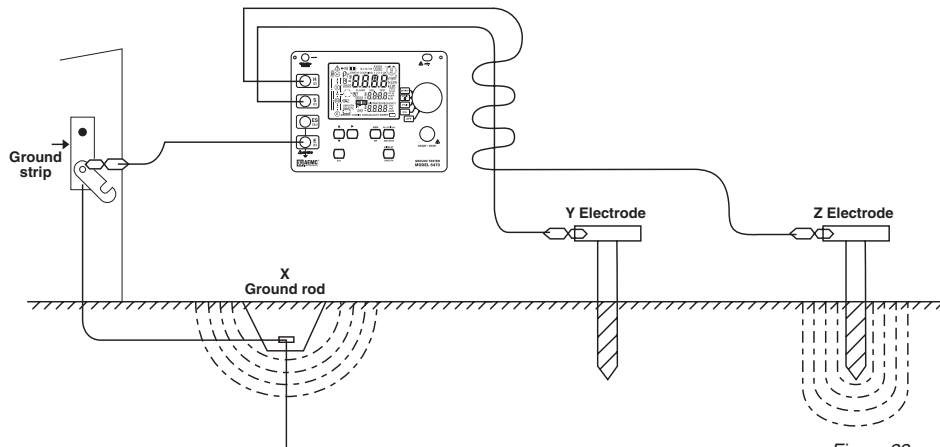

Figure 23
A) Braid the auxiliary cables together. This often has the effect of canceling out the common mode voltages between these two conductors. (Figure 23)